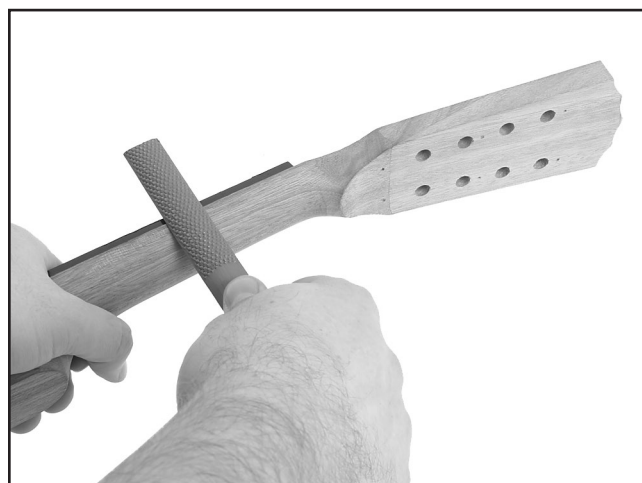

Figure 27. Shaping the neck.
2. Use a 4-in-1 shoe rasp to shape the neck until it matches the width of the fretboard (**Figure 27**).